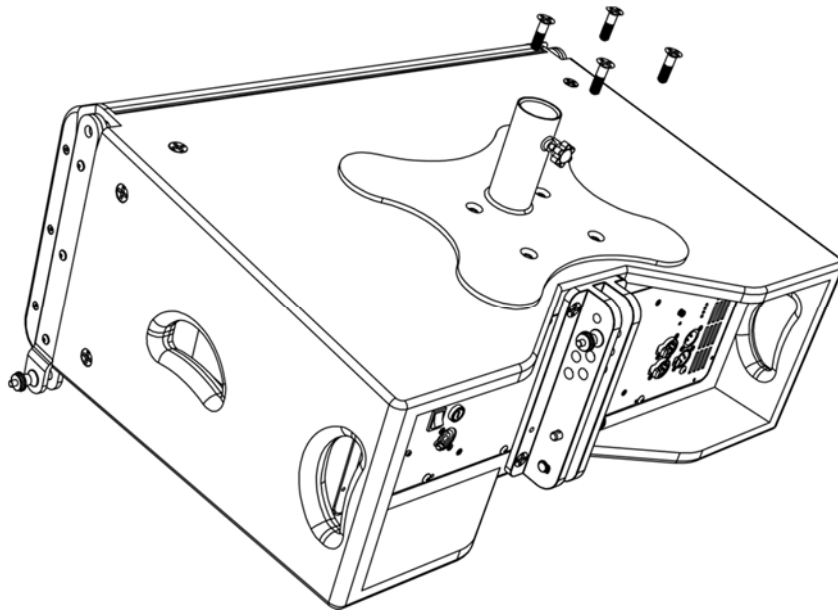
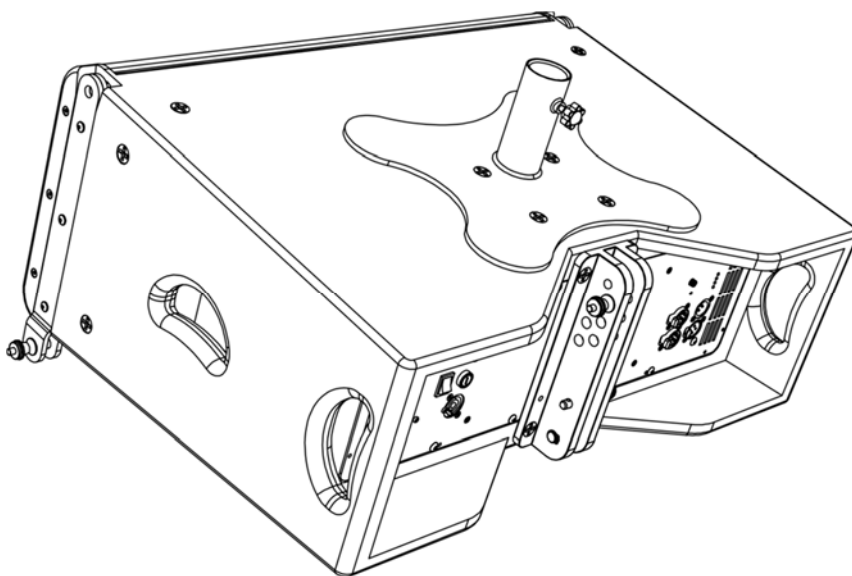

Fig. 02
Fig. 03
01) Mount the PM-01 to your Odin T-8A speaker, by means of the dedicated screws (fig. 02 and fig. 03).